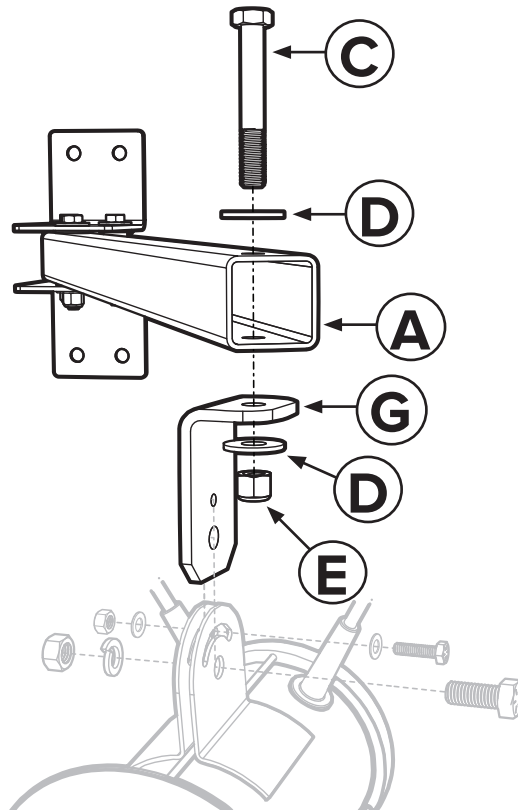

Fig. 3
Attach motor adapter (G) to mount swing arm (A) using screw (C), washers (D), and nut (E). Mount fan to motor adapter using the *Mount Motor* step in the fan installation guide. See Fig. 3.